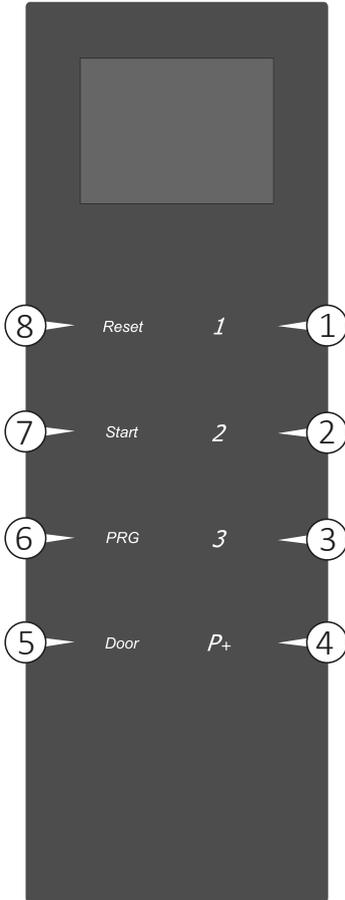

Fig. 17
To select the programs available, use key P1, P2 or P3 (see Fig. 17) depending on the most suitable program for the level of dirt of the load.
- Open the door with the Door key (5 Fig. 17) on the control panel to introduce the basket.
- Close the door and push it until the lock is activated. The door can be unlocked and opened at any time before the program starts, by pressing the Door key (5 Fig. 17).
To select the programs available, use key P1, P2, P3 or P+ (to select programs from 4 to 40) on the control panel (Fig. 17).
To start a program, press the START key (7 Fig. 17).
The message «Finish» with a green background on the display indicates that the program has been carried out correctly. Unlock the door by pressing the DOOR key (5 Fig. 17) and open it.
Description of the control panel (Fig. 17):
2) With the machine started and door closed, the screen for selecting the programs will appear. Press the selected key (P1, P2 or P3 Fig. 17) on the control panel. To access subsequent programs (if stored), press the key P+ several times.
4) Optional: enter the user password: use the key P1, P2, P3, RESET, START and PRG on the control panel to digit the correct password (See Fig. 17 for key description).